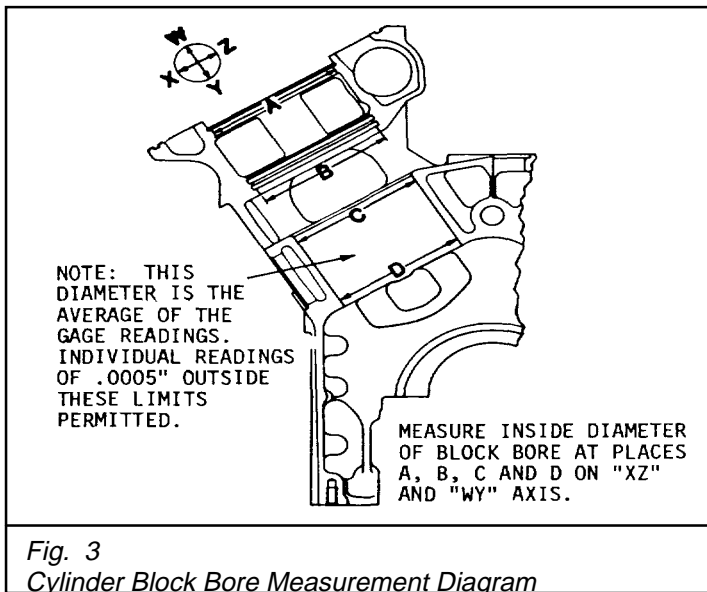

Fig. 3
- (1) Check the cylinder block bores:
- (b) Measure each cylinder block bore, at the positions indicated in Fig. 3, on axis 90° apart. If the diameter does not exceed 5.3615" (new) or 5.3625" (used) at position 'A', 5.3380" (new) or 5.3390" (used) at position 'B' (lower two seal ring lands), 5.2170" (new) or 5.2180" (used) at position 'C' and 5.2175" (new) or 5.2180" (used) at position 'D', and a sealing problem has not occurred at position 'B', the block may be reused. The